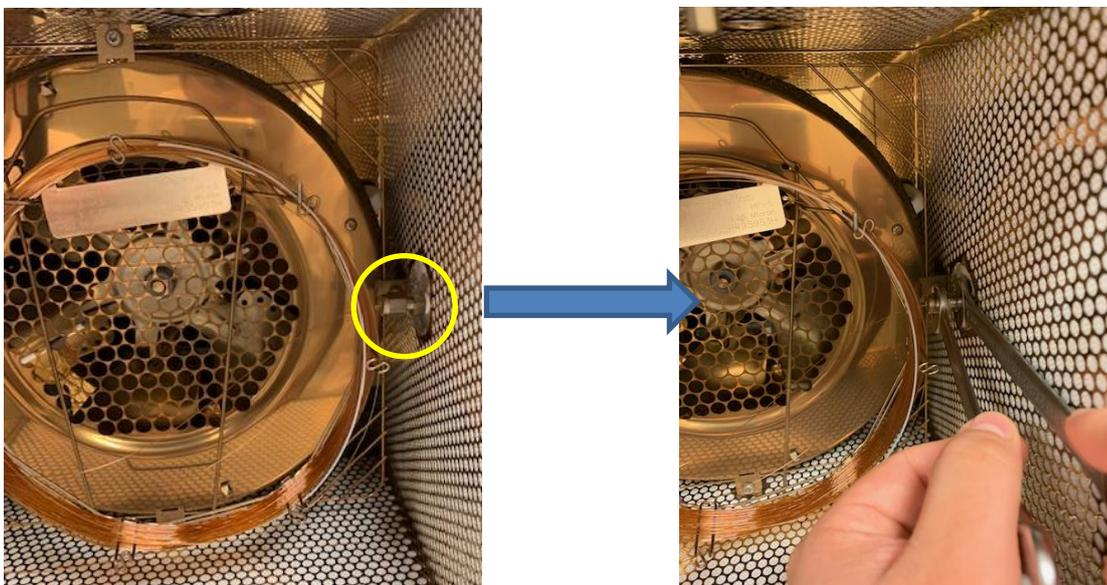

Figure 10. How to untighten the GC-LNS transfer line connection.
5.2.3 Using the 7/16" spanners, untighten the 1/8" Swagelok nut connecting the GC-LNS transfer line, located on the right side of the GC oven (Figure 10). Unscrew the male 1/8" Swagelok nut. Fingers can be used if the nut is not hot.
5.3.8 Cap with a 1/8" Swagelok blanking nut the column inlet connecting the GC-LNS transfer line, located on the right side of the GC oven (same connection from where 21cm of column has been removed, as shown in Figure 10).